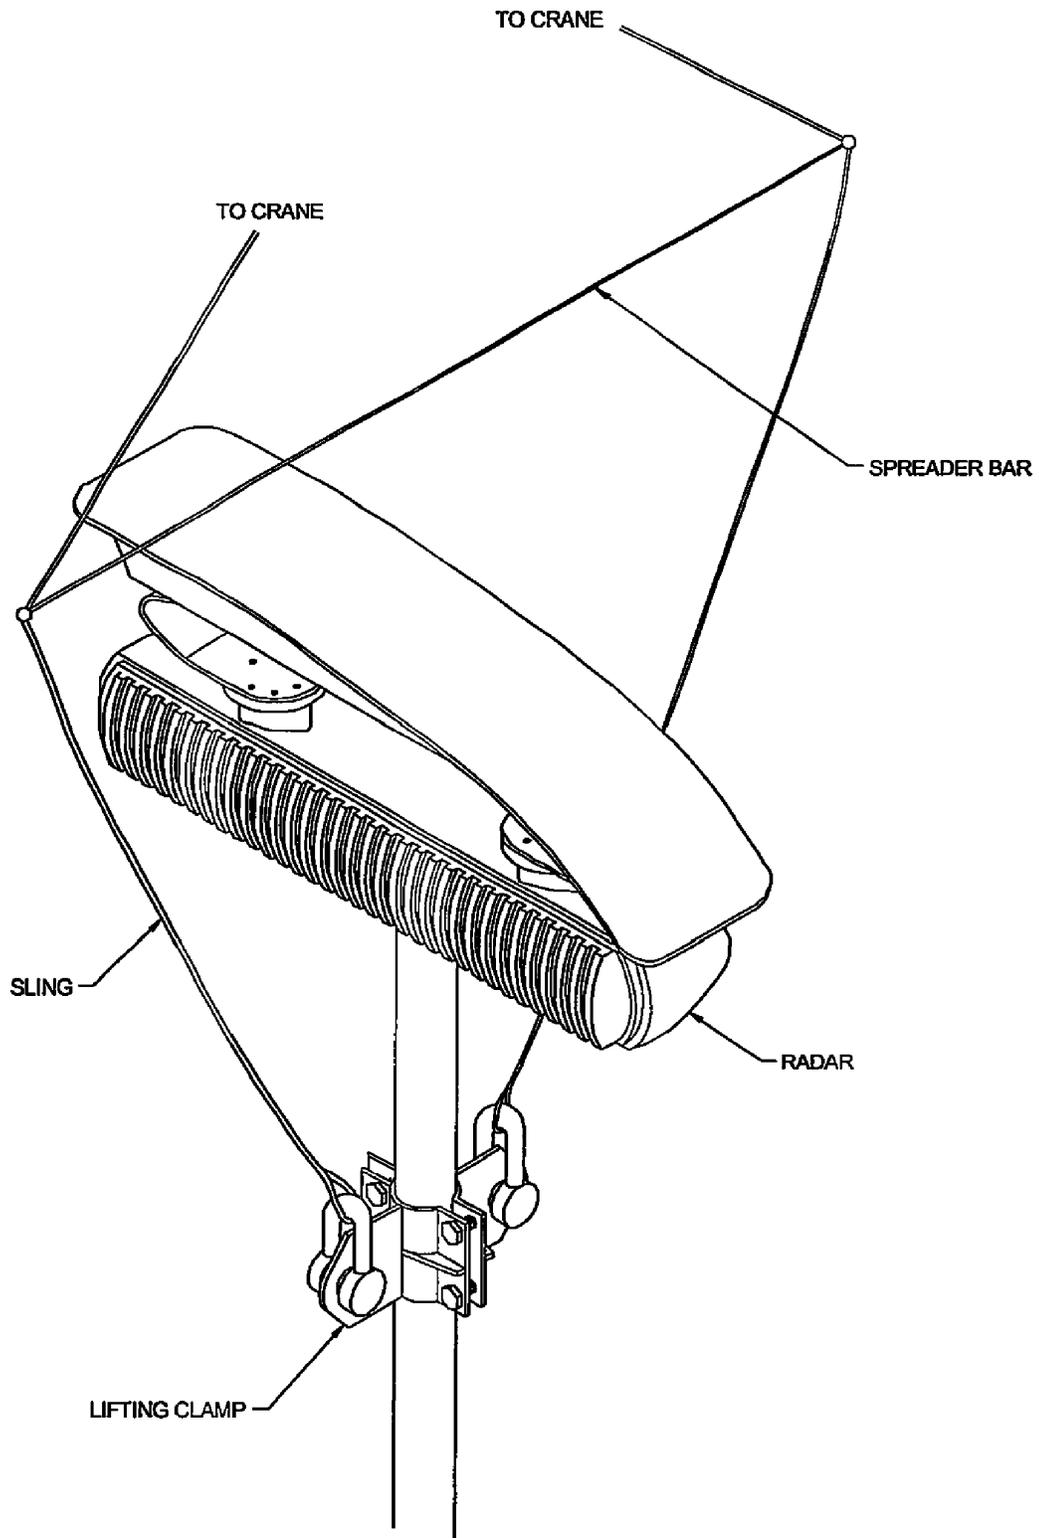

Figure 4-8 Installation of Radar Lifting Clamp
- b. Refer to Table 2-1 and Reference \(a\) for proper clamp type. Reinspect for any possible grit or dirt on the clamp lining and install the lifting clamp snug against the mast See Figure 4-8.